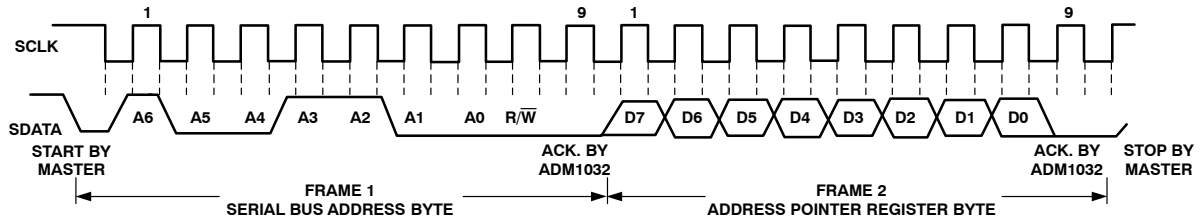
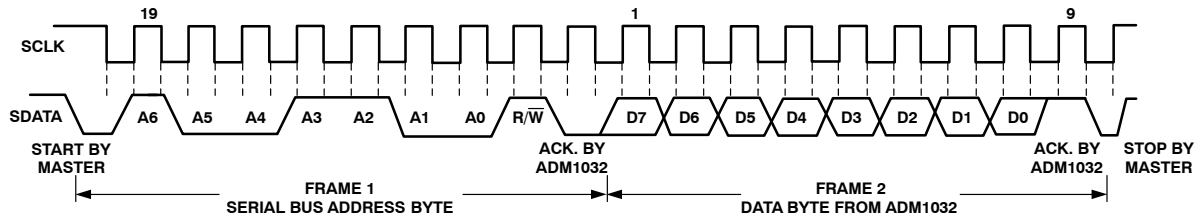

Figure 14. Writing to the Address Pointer Register Only
Figure 15. Reading Data from a Previously Selected Register
- If the address pointer register value is unknown or not the desired value, it is first necessary to set it to the correct value before data can be read from the desired data register. This is done by performing a write to the ADM1032 as before, but only the data byte containing the register read address is sent because data is not to be written to the register. This is shown in Figure 14. A read operation is then performed consisting of the serial bus address, R/W bit set to 1, followed by the data byte read from the data register. This is shown in Figure 15.
- If the address pointer register is known to be at the desired address already, data can be read from the corresponding data register without first writing to the address pointer register and Figure 14 can be omitted.